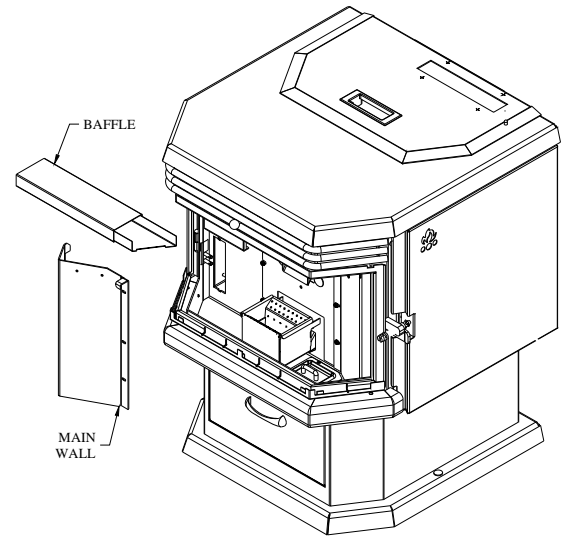

Figure 43
- c. With the door closed, clean heat exchanger tubes by sliding the cleaning rod back and forth. (see Cleaning section and Figure 43 & 44) .